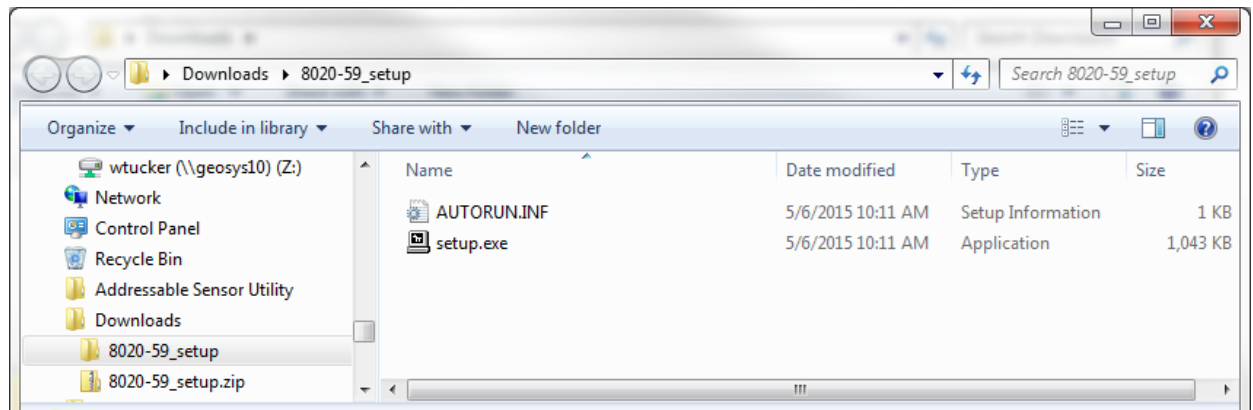

Figure 3 - Extracted 8020-59 Installer
- 3) Figure 3 on the following page shows the extracted installer in the destination folder. Double click on the file, "setup.exe", to start the install process.